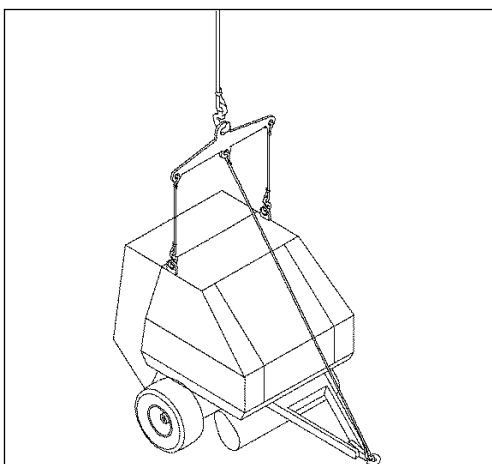
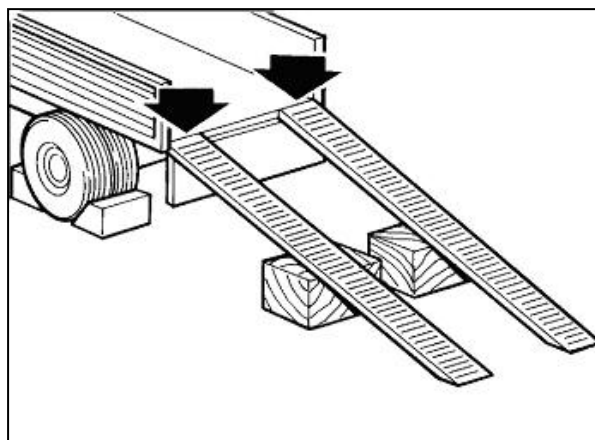

Fig.5 – Lifting points
FIG 6 – Loading ramps
Should the machine have to be taken a long way, it can be loaded on a lorry or freight car. To this end, consult 1.7 "Technical data" for the weight and dimensions. The dimensions are particularly important in determining the feasibility of transport through tunnels or tight passages. When lifting the machine from the ground onto the level where it is to be loaded, if no suitable ramps are available (Fig. 5) cranes with an appropriate hosting power can be used by hooking up the machine in the relevant lifting points marked with the hook symbol (Fig. 6)
**Loading ramp** Hitch the machine to a tractor, tow it up the ramps and transfer it onto the lorry or freight car, manoeuvring with extreme care to avoid sudden movements. Make sure the ramps are solid enough and, where necessary, strengthen them with blocks (Fig. 5) to prevent dangerous sagging. Place the ramps in the correct position for the round baler's wheel base. Make sure they are cleaned of any oil, grease or ice to prevent possible slipping.
**Crane loading.** Make sure the crane with counterweight has a hoisting power appropriate for lifting the machine. The hook up points for the lifting are clearly visible and marked with relevant stickers (Fig. 6). Lift the machine with extreme care and transfer it slowly, without sudden movements, onto the lorry or freight car.
marked with the "hook" sticker (Fig. 6): use cables or chains appropriate for the weight of the round baler, pulled tight and fastened to the hold-down point on the surface to prevent the baler shifting around.